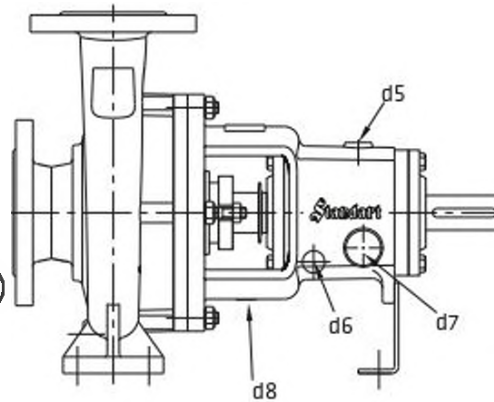

Figure 5
- Every pump is fitted with connections on the pump casing to drain the pump and the bearing bracket to evacuate the seal leakage from the stuffing box (Figure 5,6). if required the pump drain and seal leakage can be piped to a suitable reservoir. The pump draining piping must be fitted with an isolating valve and both must be suitable for the maximum operating pressure of the pump.